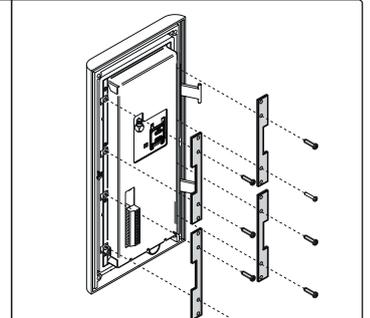

Fig. 12
- Fit the module fixing brackets using the fixing screws as shown in **Fig. 12**.